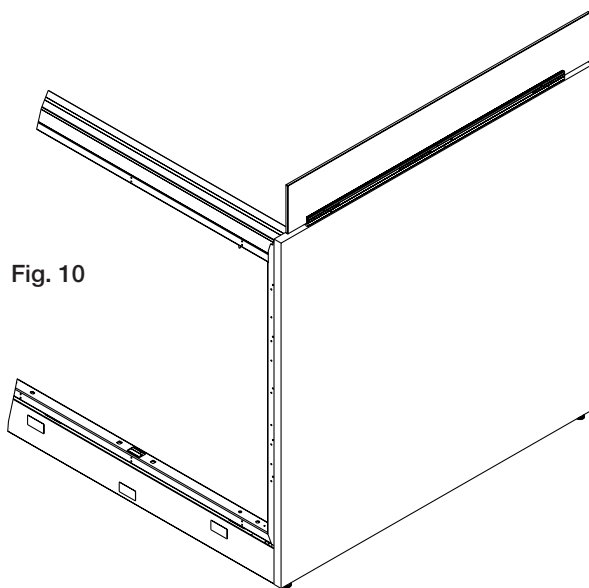
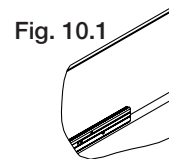
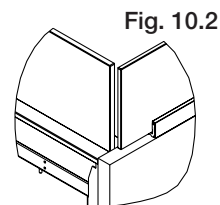

Fig. 10
Fig. 10.1
Fig. 10.2
**10. For Glass substrate:** if the glass has filler strips make sure they are fully seated and centered end to end in the channel. Make sure the glass is also fully seated and that the end is aligned to the center line of the Dividends Horizon Panel or add up glass (See Fig. 10.2/10.3). Fig. 10.1 Snug up the bottom set screw from one end to the other. Make sure the head of the set screw is at or below the surface. Then snug up the top set screw from end to end to make the glass plumb. **Note:** when you drive the top set screw in deeper it moves the top edge away from you.
**For PET substrate:** Make sure PET is fully seated and positioned correctly from side to side (see PET Iso view; see note for Fig. 10 and/or Fig. 10.2/10.3). Drive the #6 5/8" long flat head wood screws into both ends of the extrusion as shown.